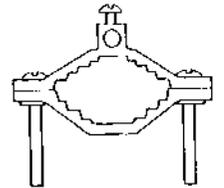

Figure 6 - Clamp for 5/8-inch thick rod
7) If the thumb screw provided on the standard 6-ft ground rod becomes damaged, it can be replaced with a nut, bolt, and washer. Alternatively, a grounding clamp can be used, NSN 5999-00-496-5834 (see figure 6). When using such a clamp with a strap-type conductor having fine strands (as typically provided with the 6-foot ground rod), it's preferred to clamp the strap directly to the rod rather than using the top screw terminal, to minimize damage and kinks in the strap.